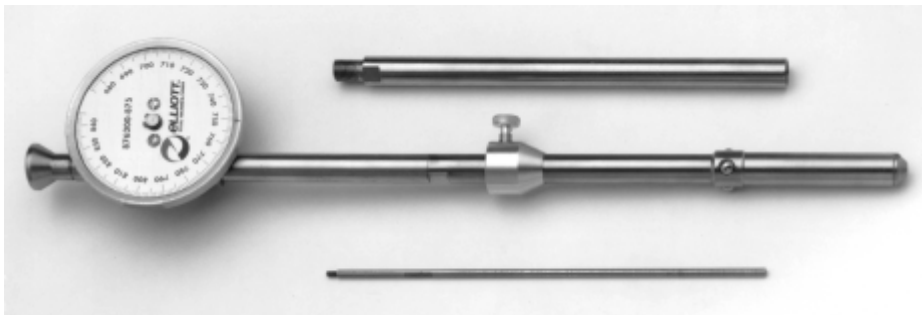

Fig. 1
5. We recommend using an Elliott tube gage to accurately verify the rolled ID of the tube (fig. 1).